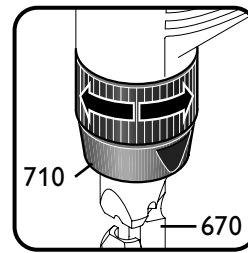
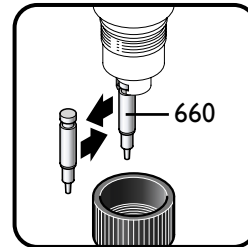
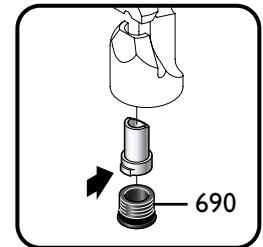

Fig. 1
Fig. 3
Fig. 4
- 5.1 **Set the cutting direction** (Figs. 1 and 2)
- Loosen the screwed cap (710) approx. 3 full turns.
- Pull the die support (670) downwards.
- 5.2 **Changing the punch** (Fig. 3)
- Loosen the screwed cap (710).
- Pull off the die support (670).
- Change the punch (660).
- Place on the die support (670).
- Tighten the screwed cap (710).
- 5.3 **Changing the die** (Fig. 4)
- Remove the screw (690).